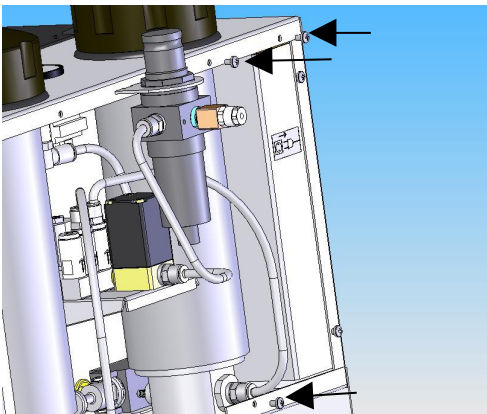

Fig. 3
- Screw the screws delivered with the add-on tank loosely into position in the casing of the Gobi-2. **Figure 3 and 4**